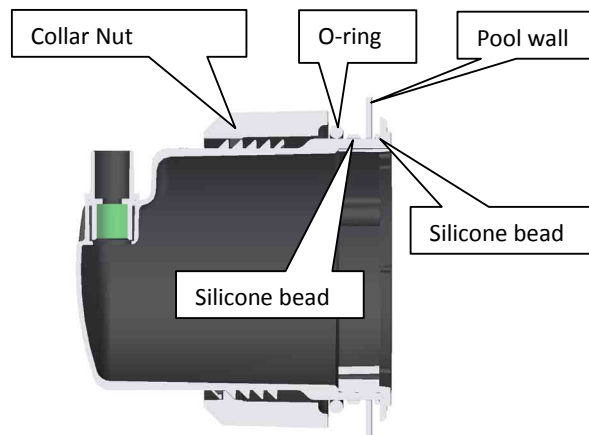

Fig. 15
10. Tighten the nut firmly by hand only (Fig. 15)